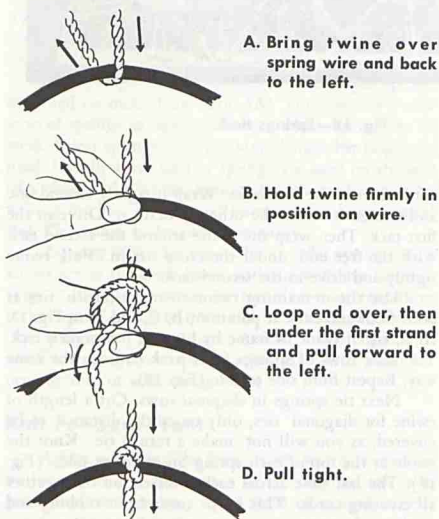
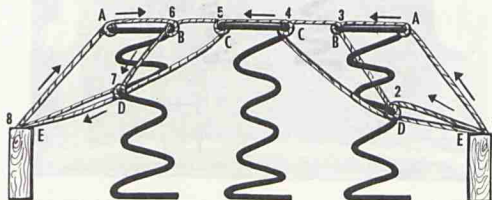
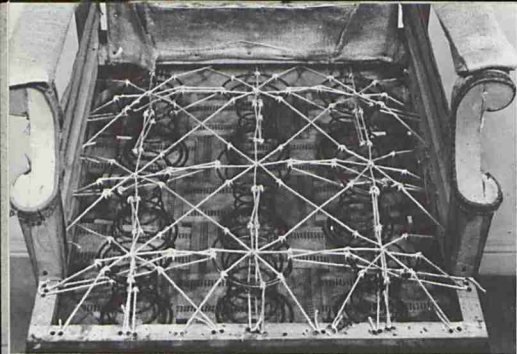

Fig. 16—Knot used to tie springs.
Fig. 17—Return tie method for three springs in a row.
Fig. 18—Springs tied.
**Flat Top Seat**—We will first show how to tie springs on the wing chair which has a flat top seat with a hard stuffed front edge. You tie each row of springs exactly through the center, first from back to front, then from side to side. Then tie them in both directions diagonally. That means that each spring will be tied in 8 places. (Fig. 18) In cheap construction, diagonal ties are often omitted. When redoing a chair of that kind always add the diagonal tie.
With the long end of twine, tie across the row of springs at points 2, 3, 4, 5, 6, and 7 as in Fig. 17. Use the knot shown in Fig. 16. Press the springs down to
the correct height as they are tied. The height and spacing of spring ties will determine the shape of the seat. For a chair with a removable cushion you usually tie springs down slightly lower than the lower arm and back stretchers. All springs should stand vertical when tied. The top of the seat should be flat, sloping slightly down to the back. Next fasten the twine to the front seat rail (Point 8, Fig. 17). Fasten as shown in Fig. 15B. Bring the
Use the remaining twine to make return ties at both front and back at points A, B, C, and D in Fig. 17. At E, fasten twine to frame by looping it around a tack. Tie other rows of springs from back to front the same way. Repeat from side to side (Fig. 18).
Next tie springs in *diagonal* rows. Cut a length of twine for diagonal ties, only twice the distance to be covered, as you will not make a return tie. Knot the twine at the top of each spring on opposite sides. (Fig. 18). The last time across each intersection tie together all crossing cords. This keeps cords from rubbing and cutting.